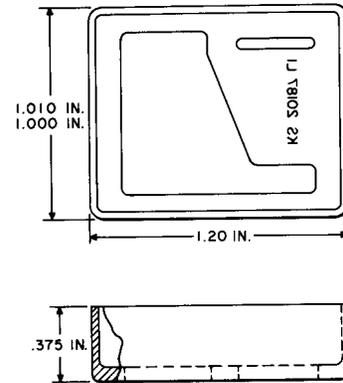

Fig. 7—KS-20187, L1, Terminal Insulator Tool
2.08 KS-20187, L1: The KS-20187, L1, terminal insulator tool (Fig. 7) is a small, molded plastic, open box designed to fit over the terminals of the ferrod sensors in the No. 1 Electronic Switching System (ESS). The KS-20187, L1, terminal insulator tool is used to prevent the solderless-wrapped connection wires from shorting to adjacent terminals or to ground while the connections are being changed.